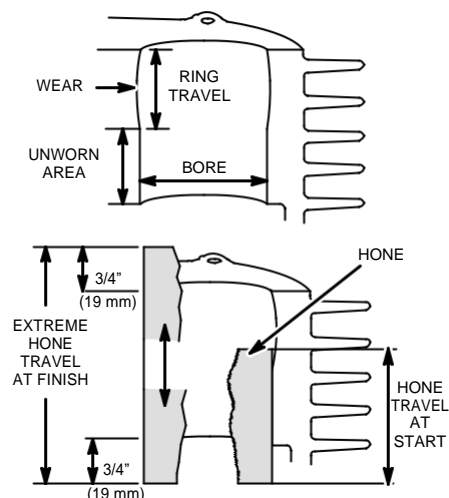

Fig. 3
6. Lubricate hone as recommended by hone manufacturer. The recommended drill speed is 300 to 700 RPM MAXIMUM and 40-60 strokes per minute. Because cylinder bores normally wear only in the area of ring travel, the cylinder bore will be round above and below ring travel, Fig. 3.
7. Start drill and, as hone spins, move it up and down at the bottom of the cylinder bore. Gradually increase the length of the strokes until hone travels full length of cylinder bore, Fig. 3. Lubricate hone frequently to prevent build up on stones.